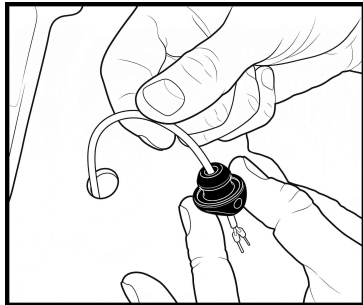

Fig. 25
**3.18** Install the rubber seal onto the magnet cable by pressing the cable into the longitudinal slot and routing it through the side opening. (Fig. 25, 26)